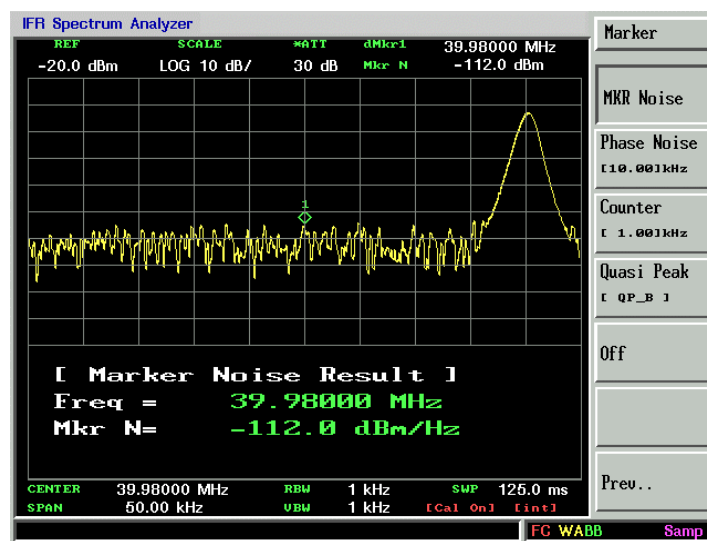

Figure 2-21. Activating the Noise Marker function
5. Activate the noise marker by pressing **MKR**, *More.., Function.., MKR Noise*. Note that the display detection has changed to sample, the marker floats between the maximum and the minimum of the noise. The marker readout is in dBm or dBm per bandwidth. See Figure 2-21. For noise power in a different bandwidth, add  $10 \times \log(BW)$ . For example, for noise power in a 1 kHz bandwidth, add  $10 \times \log(1000)$  or 30dB to the noise marker value.